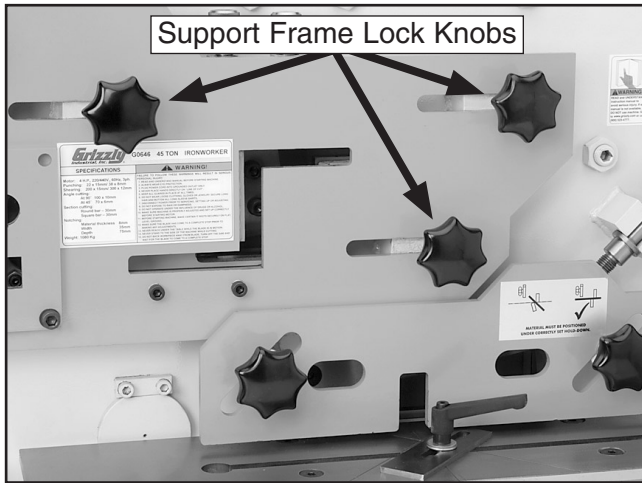

Figure 39. Front support frame lock knobs.
- Loosen the three lock knobs of the shearing support frame (see **Figure 39**).